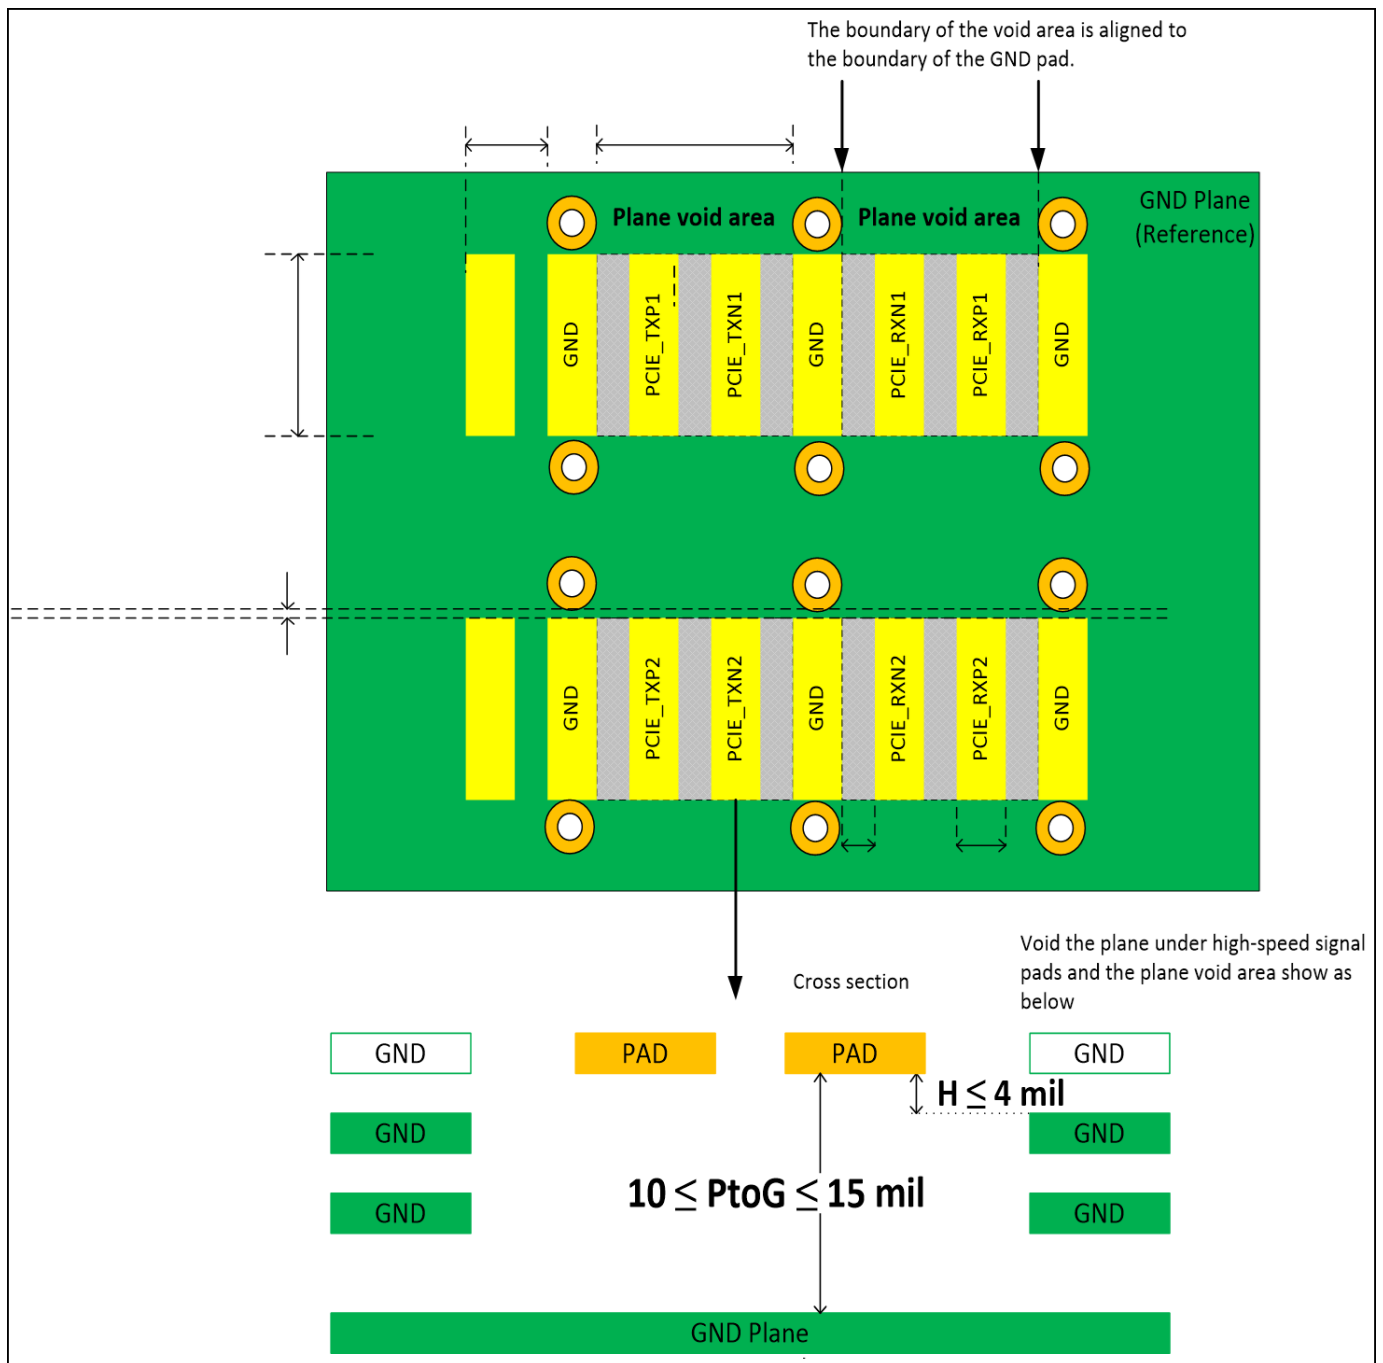

Figure 43: Two Rows Mounted Connector Footprint
10. For two rows mounted connector footprint, the recommended void area under edge-pad is shown in Figure 43.